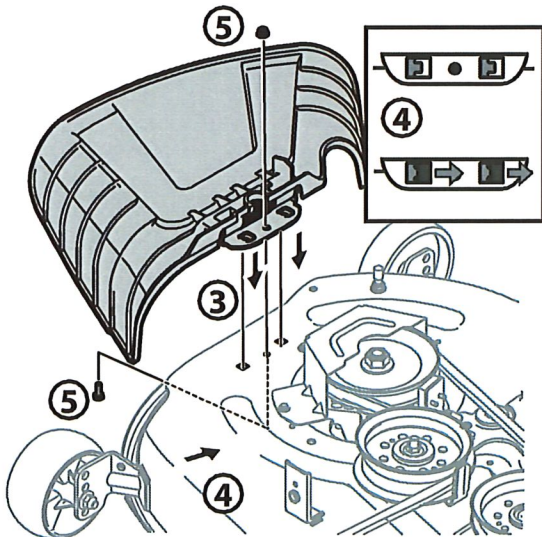

Figure 8
3. Place the chute deflector on the deck, be sure to insert the tabs on the chute deflector into the holes on the deck. See Figure 8.
4. Slide the chute deflector toward the rear of the tractor until the bolt hole in the chute deflector aligns with the hole in the deck. See Figure 8.
5. Secure the chute deflector in place with the flange lock nut and hex screw removed in Step 2. Tighten to 102-124 in-lbs (12-14 N-m). See Figure 8. Skip ahead to Setting the Deck Wheels.